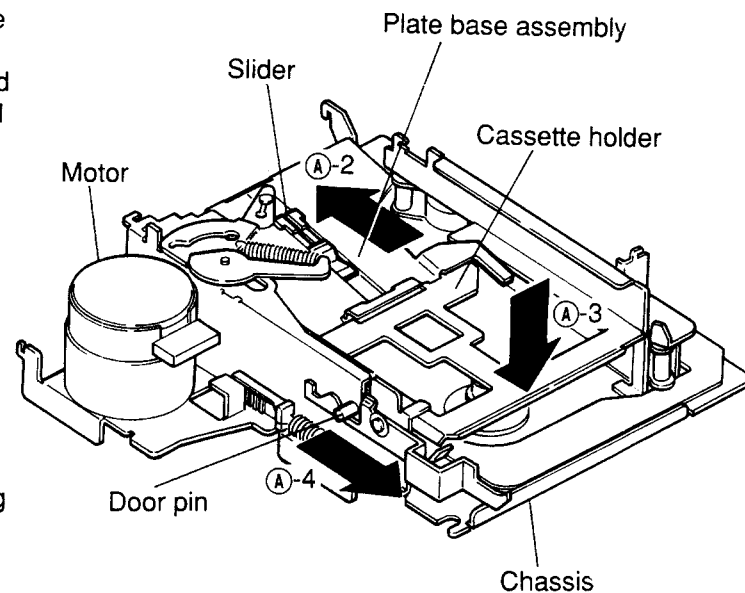

Figure 2
- (5) When remounting the bottom cover, first turn the front of the mechanism up as shown in Figure 2.
- (6) Slide the slider in the direction ④-2 as shown in Figure 2.
- (7) Push down the cassette holder in the direction ④-3 as shown in Figure 2.
- (8) Pull the door pin in the direction ④-4 so that the mechanism is locked in as shown in Figure 2.